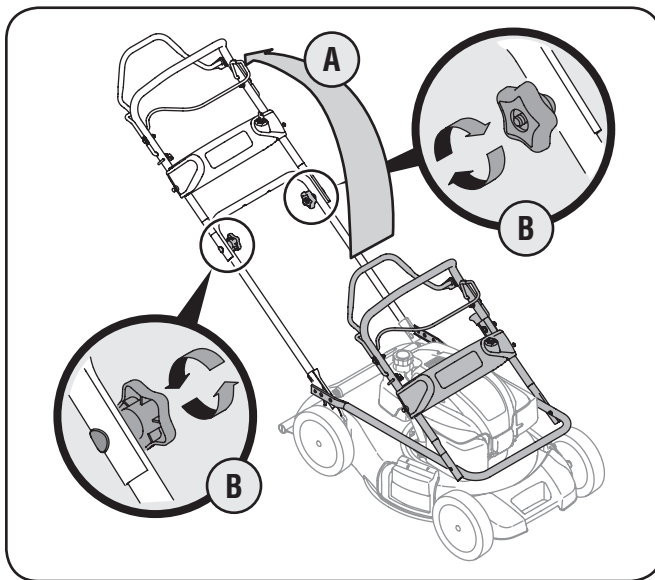

Figure 3-1
- Pull up and back on upper handle as shown in Figure 3-1. Do not crimp cable while lifting the handle up. Remove star knobs from handle mounting brackets and secure the lower handle onto the handle brackets by placing the lower hole of the lower handle onto the pins of the handle brackets.
- Tighten star knobs securing upper handle to lower handle. See Figure 3-1. Make sure that each carriage bolt is seated properly in the handle.